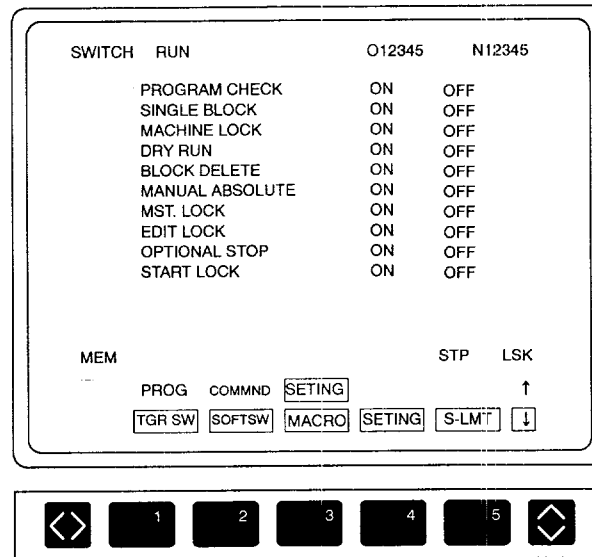

Fig. 6.4 Internal Switch Screen
- ① When the [SWITCH] (f1) function soft-key is pressed, the internal switch screen (Fig. 6.4) is displayed.